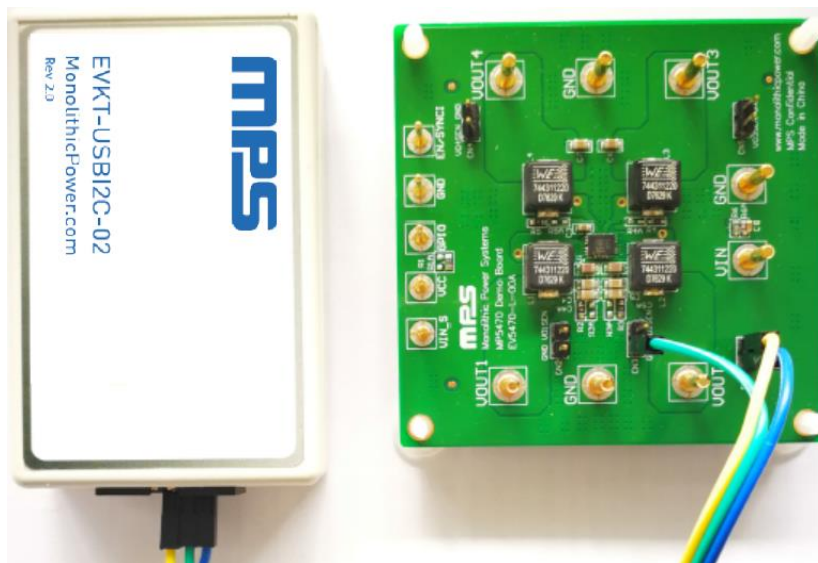

Figure 6: EVB to MPS I²C Communication Interface Device Wire Connection
2. Connect SCL, SDA, and GND (see Figure 6). If needed, refer to the datasheet for further clarification.